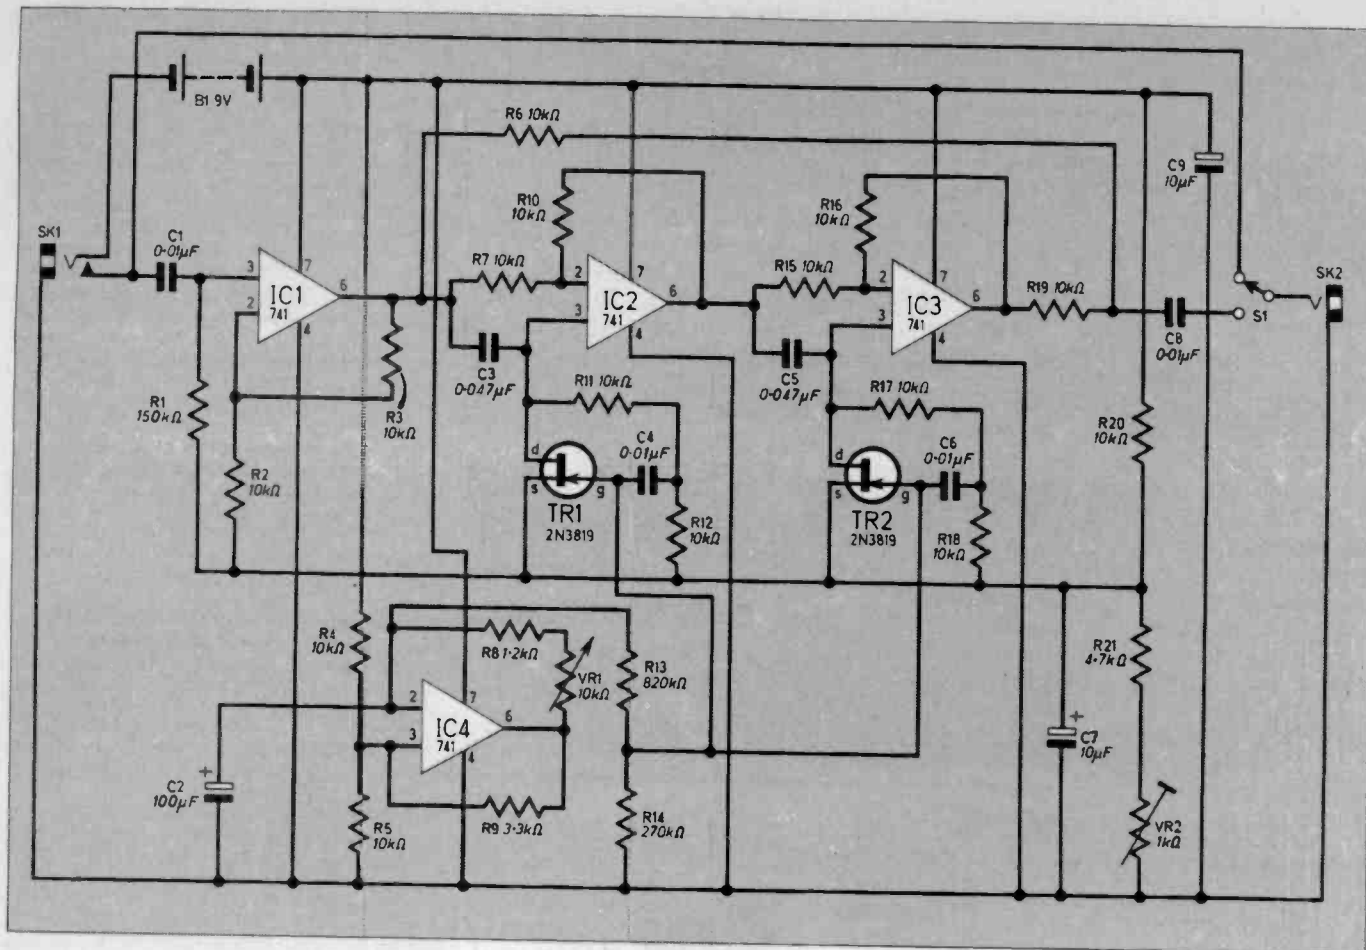

Fig. 5. The complete circuit diagram of the Automatic Phase Box.
The complete circuit diagram of the Automatic Phase Unit is shown in Fig. 5. Input is at SK1 via d.c. blocking capacitor C1 to the buffer amplifier composed of IC1 and associated components. This has an input impedance of 150 kilohms which makes it suitable for most electric guitars and organs.
Fig. 5 (above). Complete connection details of the unit to the existing vehicle wiring and additional wiring to be made. The existing wire between flasher (B) and the ignition switch needs to be removed as indicated. Connection X should be made to the fuse side of the ignition switch as explained in the text. All connections have been shown as soldered joints but will be by the usual push-on types fitted to most vehicles.